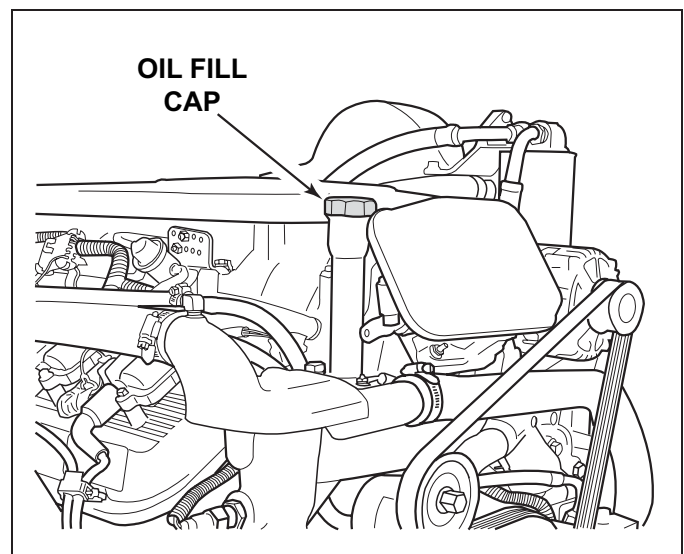

Figure 11-26 Engine Oil Fill (8.1L)
4. Fill the engine with the recommended oil, see OIL REQUIREMENTS, through the oil fill location on the valve cover (Figure 11-26).